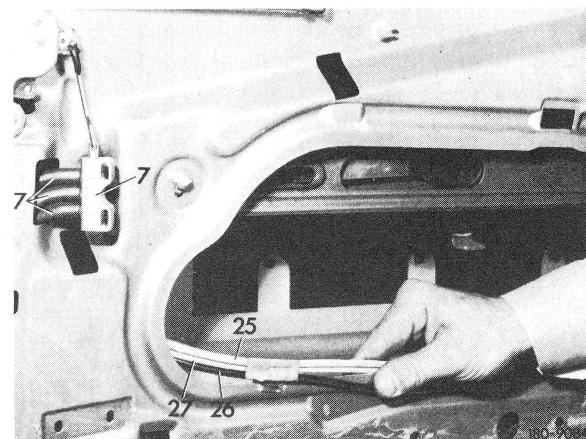

Fig. 2
- 4 Pull connections (17) with interlocking line „white“ (25) bottom, unlocking line „black“ (26) top and suction line „yellow“ (27) center from vacuum switch (7) (Fig. 2).
- 7 Slip connections (17) with interlocking line „white“ (25) bottom, unlocking line „black“ (26) top and suction line „yellow“ (27) center on vacuum switch (7) (Fig. 2).